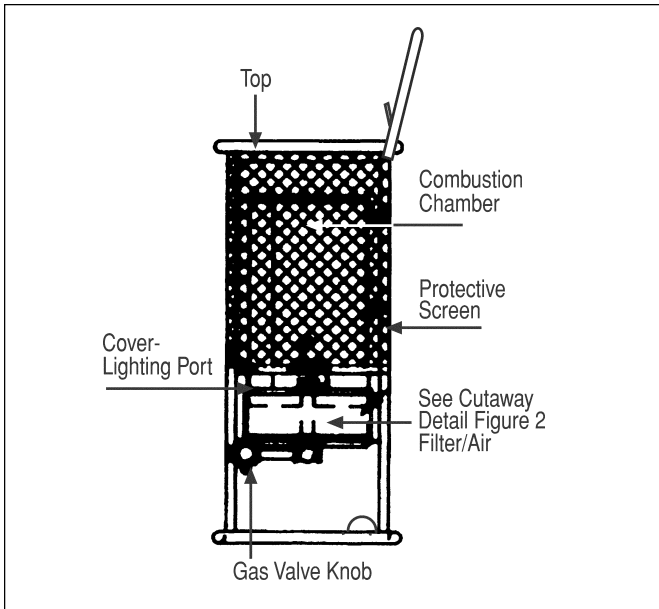
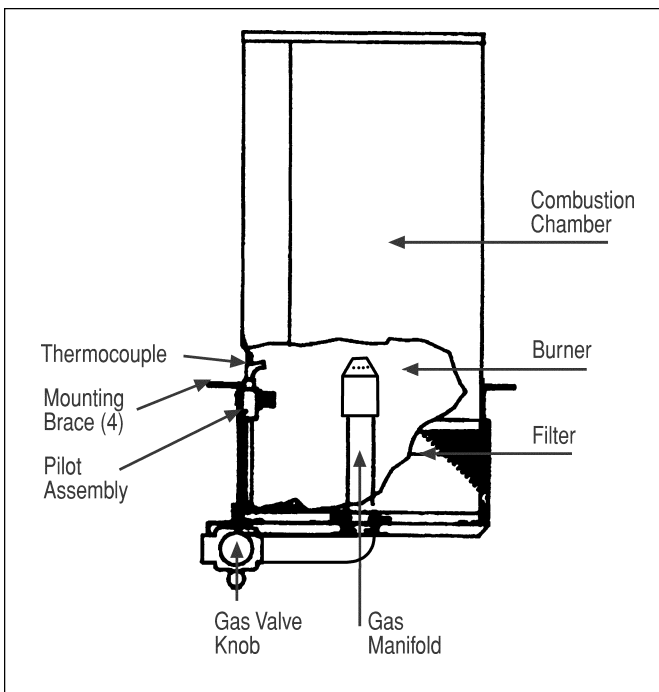

Figure 1
Figure 2
- 3 Turn the gas valve knob clockwise to the "OFF" position. See Fig. 1 and Fig. 2 for location of appliance parts.
- 6 Turn the gas valve knob counter-clockwise to the "PILOT" position (see Fig. 1).
- 7b To light the pilot, move the lighting hole cover aside (see Fig. 1) and place a lighted match into the hole. Depress the gas valve knob and hold while lighting and observing the pilot burner. Ensure that the pilot burner ignites from the match. Allow the pilot to burn approximately 30 seconds before releasing the gas valve knob. If pilot does not remain lighted, repeat the lighting operation allowing a longer period of time before releasing the gas valve knob.
- Turn the gas valve knob counter-clockwise to the "ON" position (see Fig. 1). The burner will light. **DO NOT operate the heater in any other than the full "ON" position.**
- IMPORTANT: DO NOT attempt to adjust the main burner input using the main gas supply valve,** for this may cause the pilot and thermocouple to shut down the burner (Fig. 2).